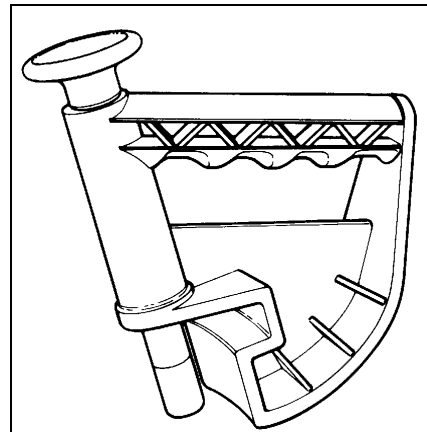

Fig.7
**#4003444 bead depressor tool (Fig.7)**